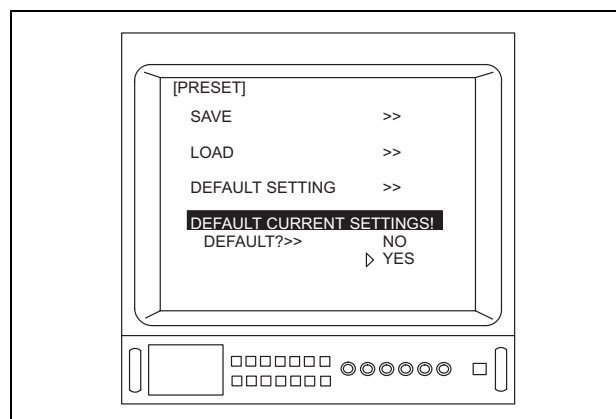

Figure 5.85
6. Depress the menu switches “◀” or “▶”, or the “↑/↓/←/→” key on the keyboard to move the arrow “▷” to “YES” (see Figure 5.85).